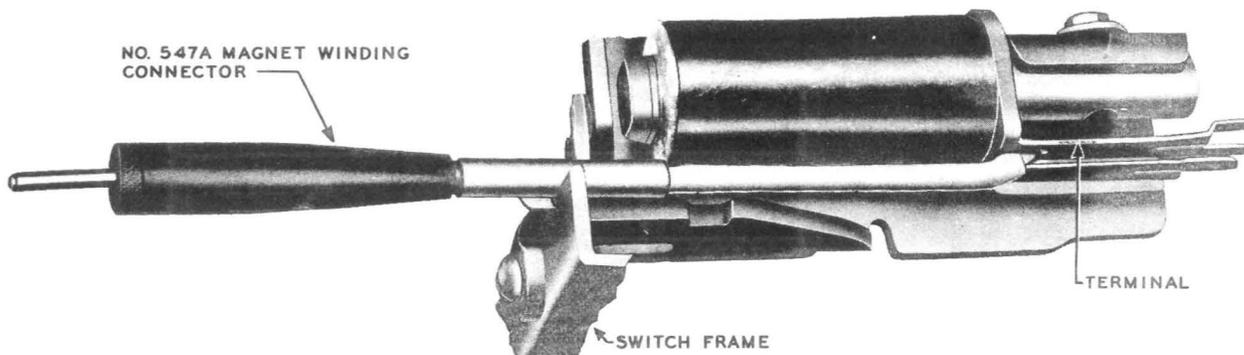

Fig. 8 — Connecting to Winding Terminal of the Hold Magnet of the 324-, 325-, 328-, 334-, and 338-type Switches
3. To revise the title of Fig. 8.